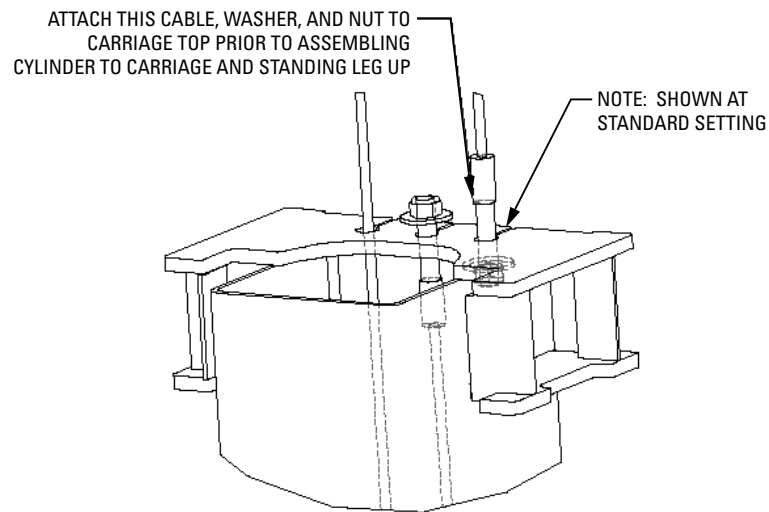

Figure 5
- N. Feed one end of an equalization cable down through the rightmost hole in the carriage top, figure 5. Continue to feed the cable until it extends out the bottom of the carriage. Attach a nylon insert locknut and washer to the end of the cable so that 1/8" of cable stud extends past the end of nut. Pull the opposite end of the cable until the washer contacts the carriage top. Repeat for the other cable/carriage.